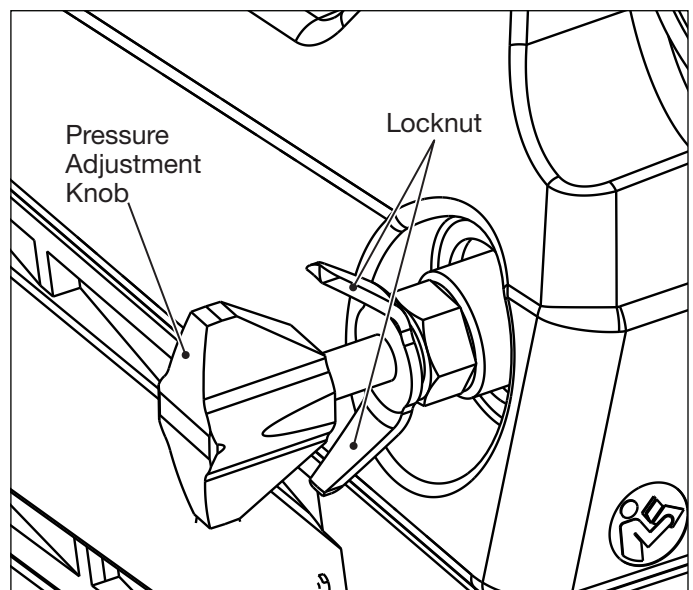

Figure 9: Relief Valve Pressure (torque) Adjustment
2. Check the pump hydraulic pressure gauge. If any pressure is indicated, loosen the relief valve locknut and turn the pressure adjustment knob counter-clockwise until pressure is relieved and gauge indicates zero (0) psi/bar. Refer to Figure 9.
The pump contains a user-adjustable hydraulic pressure relief valve which allows the pump to be set to a specific target pressure corresponding to the desired target torque required for your application. See Figure 9.
NOTICE If battery is fully discharged, or if pressure relief function is not working, relieve trapped pressure manually by turning pump relief valve knob counter-clockwise until pressure is relieved. Refer to Figure 9.